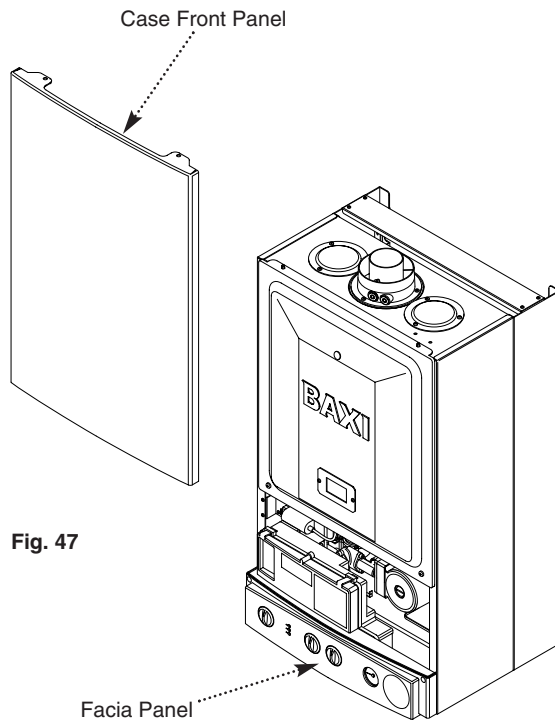

Fig. 47
5. Slacken the screws securing the fascia panel. Lift the outercase panel so that its securing tabs are clear of the fascia. Remove the panel (Fig. 47).